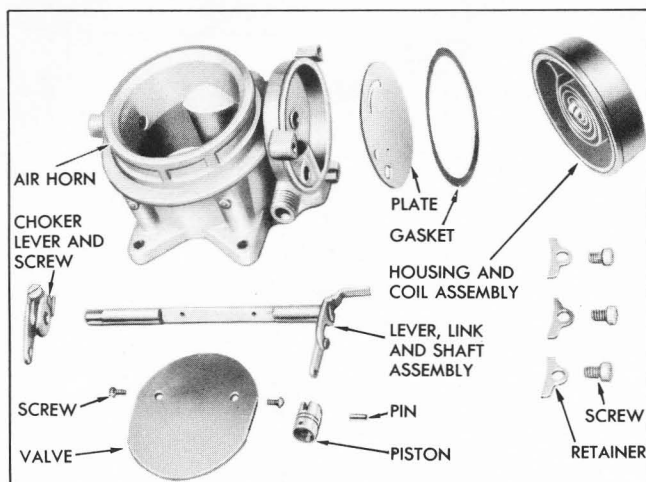

Figure 3-42—Air Horn and Climatic Control—Disassembled
4. Remove thermostatic coil and housing assembly, gasket, and baffle plate. See figure 3-42.